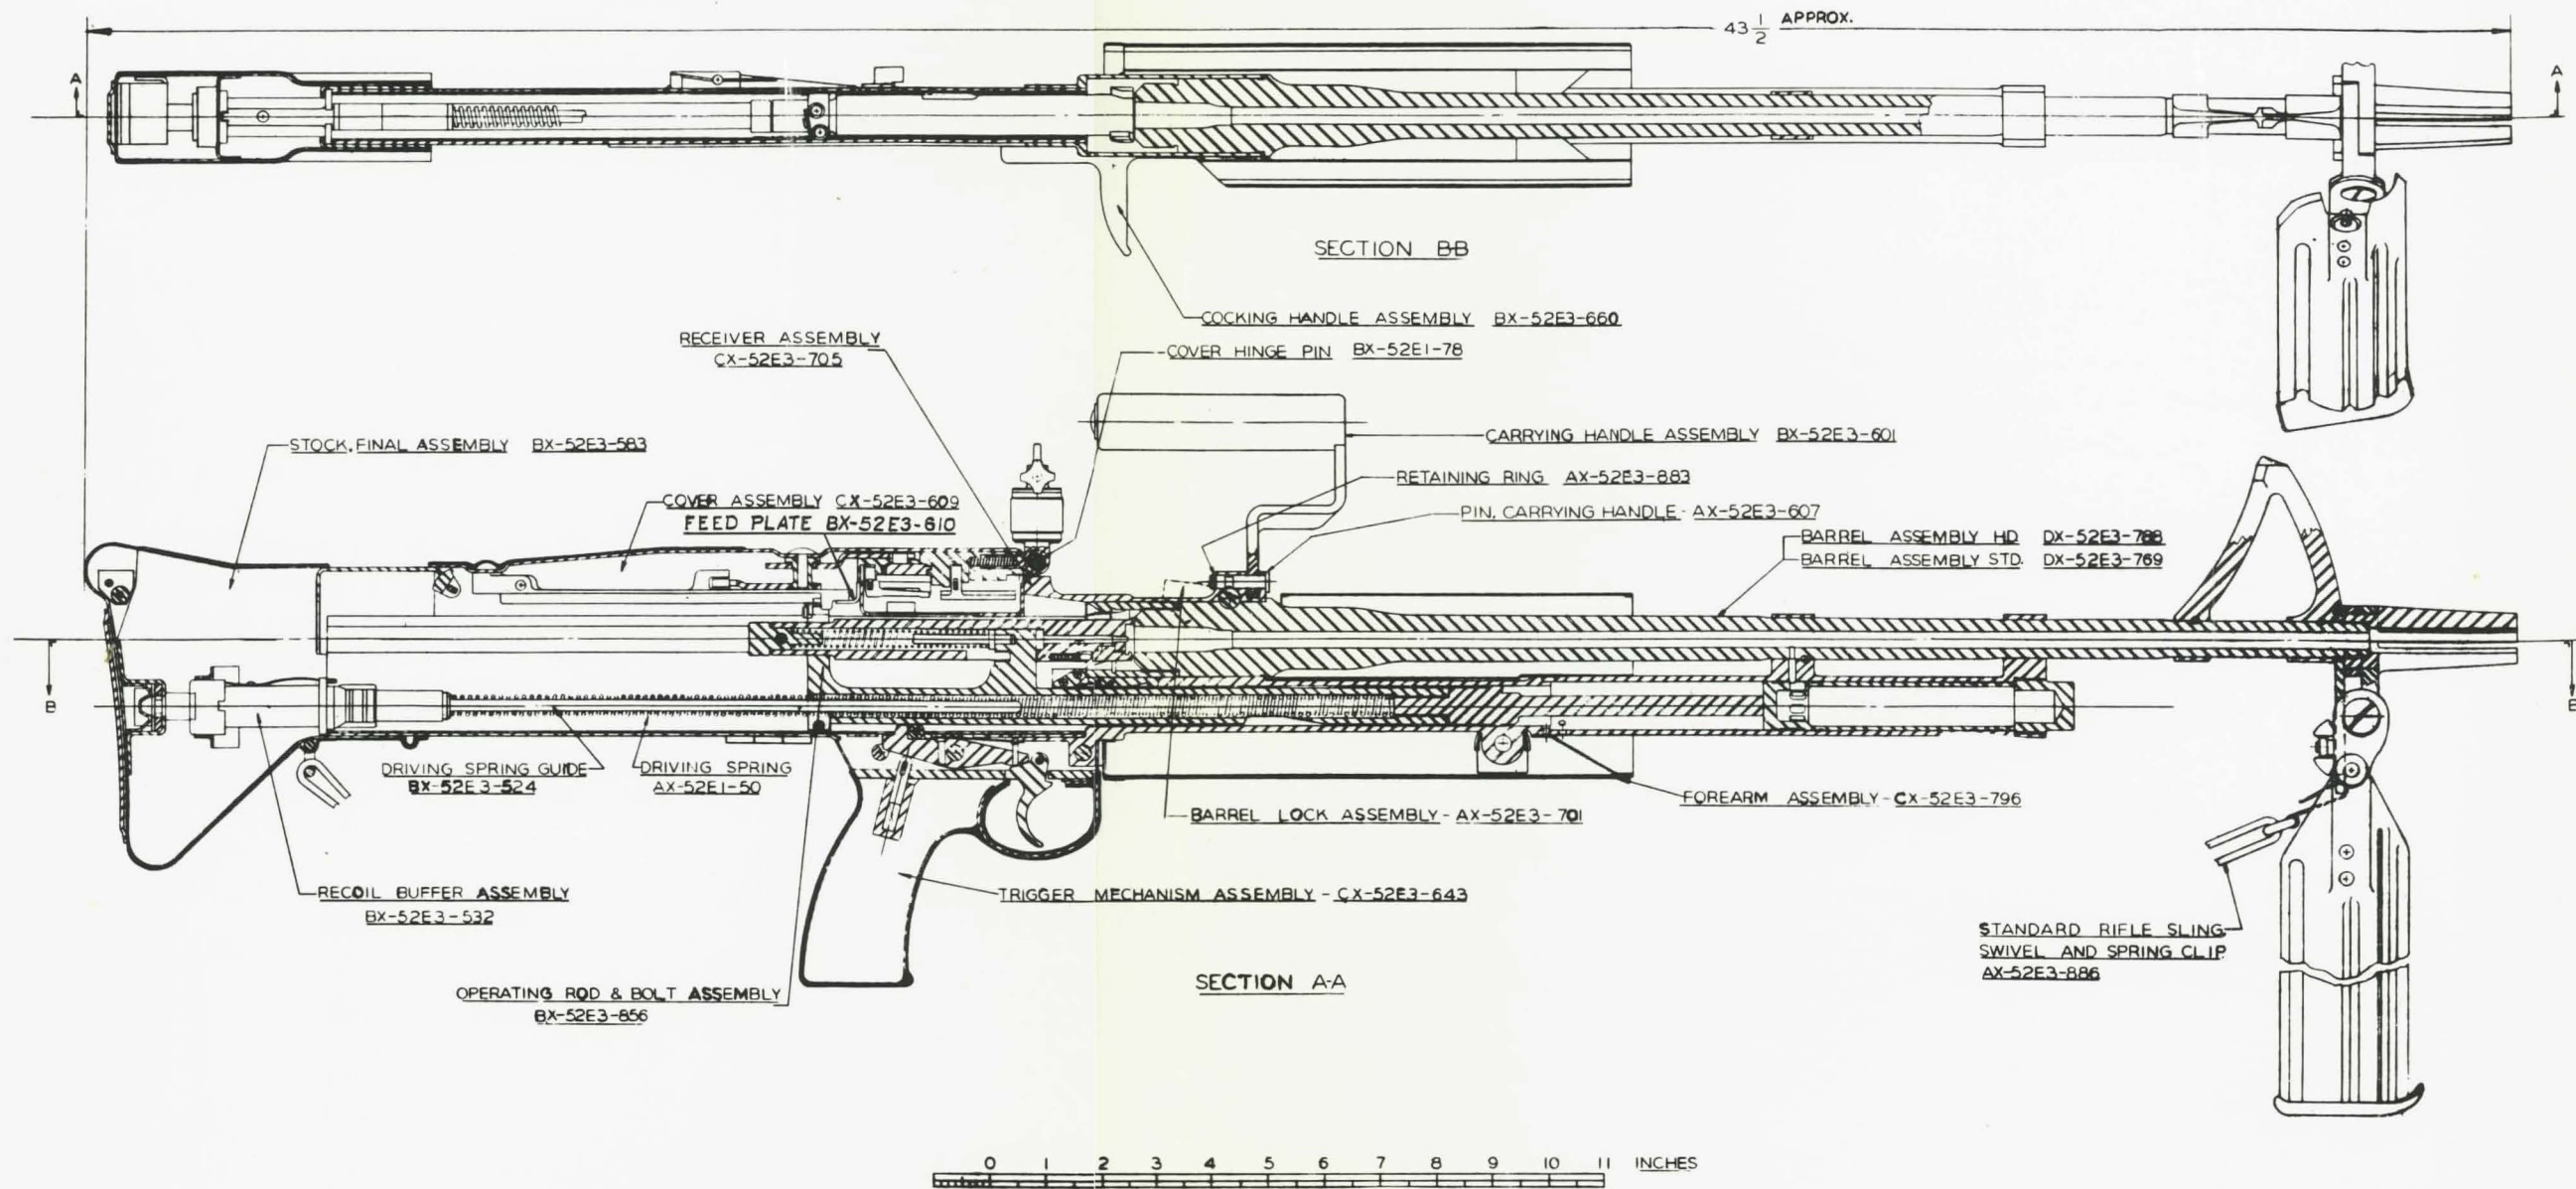

FIG 12 - GUN MAIN ASSEMBLY
(Paragraph Nos 50 to 59 inclusive, See Fig. 4, Page 10, Fig. 12, Page 31, and Fig. 14, Page 35.
- a. Assemble barrel lock group to receiver housing by inserting barrel lock handle into lock locating hole on forward right side of socket. See Fig. 12, Page 31 and Fig. 14, Page 35.
- a. Holding the receiver housing firmly, push the trigger mechanism grip, up into flange interlocking position and over the locating lug connected to the receiver housing, then push trigger mechanism grip rearward one-quarter (1/4) inch. See Fig. 12, Page 31.
- b. Assemble carrying handle assembly on socket, line up hole in handle arm with hole in socket, then insert carrying handle pin up to shoulder and add retaining ring. See Fig. 12, Page 31.
- a. Slide subassembly of barrel into receiver housing with rearward end of gas cylinder seating over forward end of socket. See Fig. 12, Page 31.